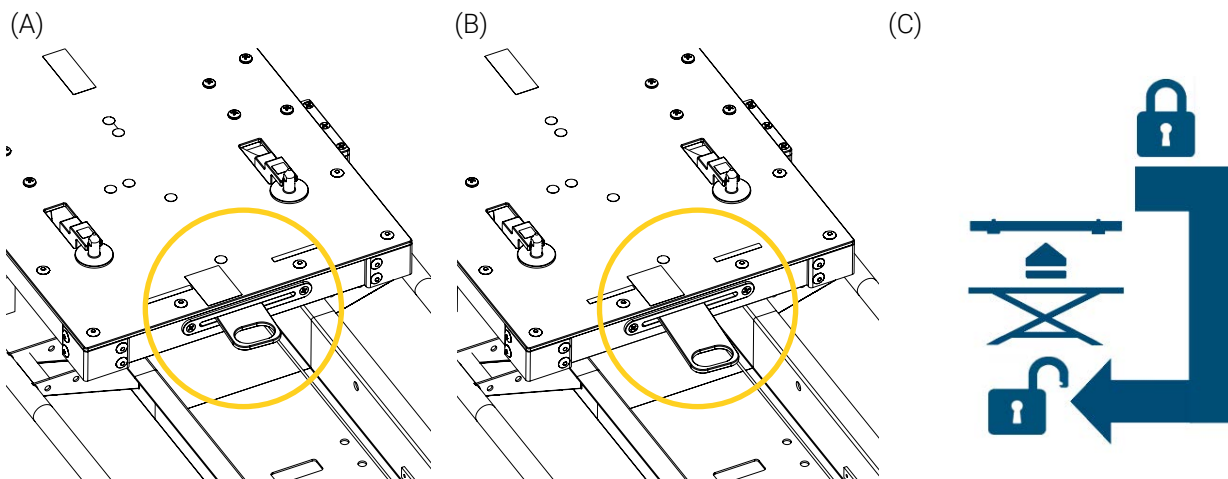

Figure 8: Neonatal Transport Incubator Platform locking mechanism - Patient foot end
5. At patient foot end, locate the Neonatal Transport Incubator Platform lock/unlock quick release latch, and verify its position. It should be retracted towards patient right in the locked position (Figure 8 A). If unlocked (Figure 8 B), move the latch towards patient left, insert it, then move it towards patient right (Figure 8 C) to lock the mounting solution on the stretcher.